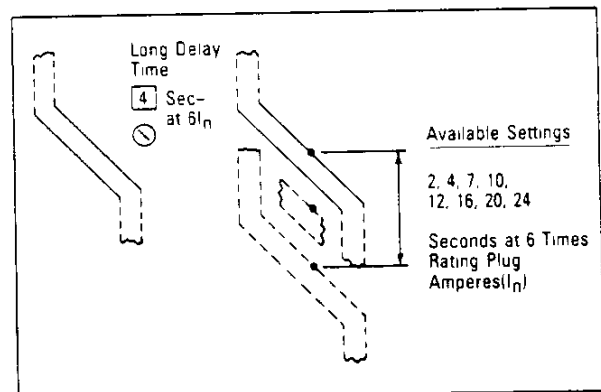

Fig. 6.2 Long Delay Time Settings
Eight (8) available settings, as illustrated in Fig. 6.2, range from 2 to 24 seconds. These settings represent total clearing times at a current value equal to six (6) times the installed rating plug ampere rating (I_N).